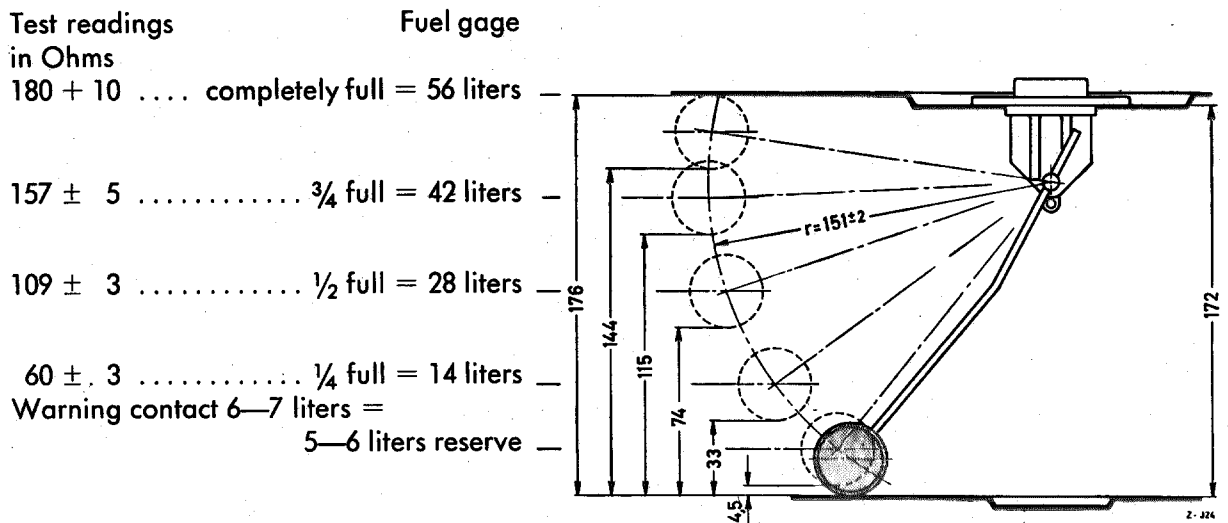

Fig. 47 — 3/1
3. Test the fuel level indicator to see whether it is functioning properly in the individual float positions (Fig. 47 — 3/1).